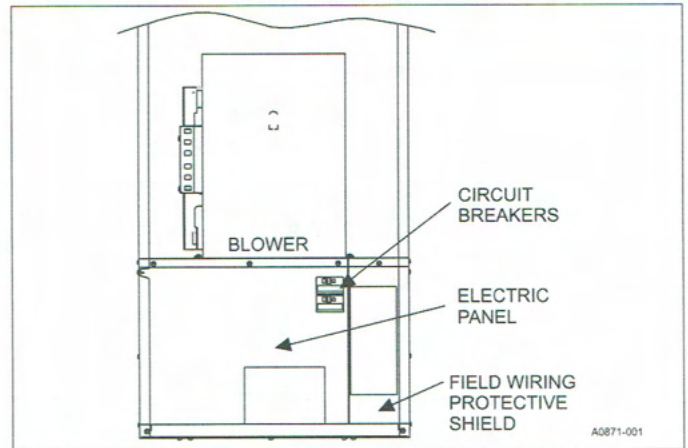

FIGURE 10: Field Wiring Shield
*Furnace is equipped with a protective shield over field wiring connection. When field wiring is completed, shield must be replaced to prevent hazard of electrical shock when using furnace disconnect. (See Figure 10.)*